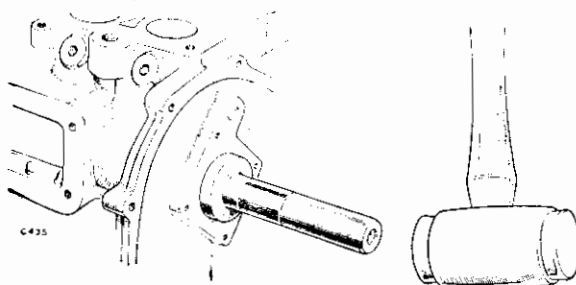

Fig. A-405—Outer camshaft bearing removal
2. Drift the front camshaft bearing into the foremost tappet chamber, using tool, Part No. 274388, then withdraw the bearing from the chamber aperture. Fig. A-405.